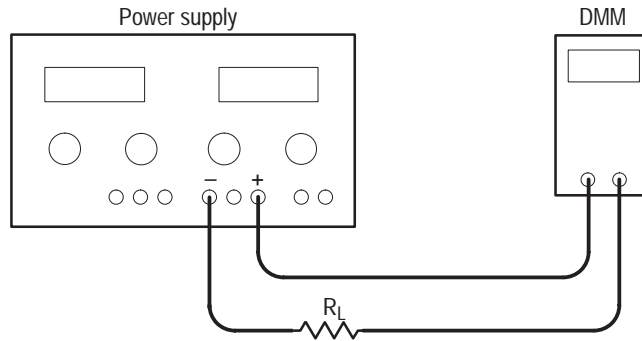

Figure 4: Constant voltage test setup
3. Connect the digital multimeter and load resistors to the + and – terminals of the power supply MASTER output as shown in Figure 4. See Table 9 for the appropriate load resistor values.
3. Connect the digital multimeter and load resistors to the + and – terminals of the SLAVE output as shown in Figure 4. See Table 9 for the appropriate load resistor values.
2. Connect the digital multimeter and load resistors to the 5V FIXED 3A terminals. Use the test setup illustrated in Figure 4. See Table 9 for the appropriate load resistor values.